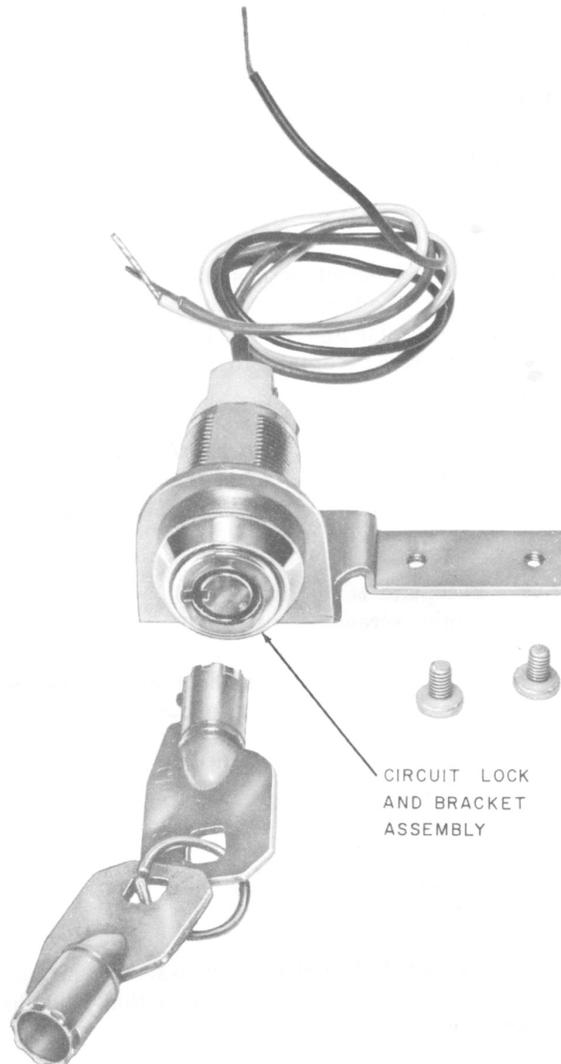

Fig. 7—D-180385 Kit of Parts
3.13 Install the circuit lock (D-180385 Kit of Parts Fig. 7) as follows: